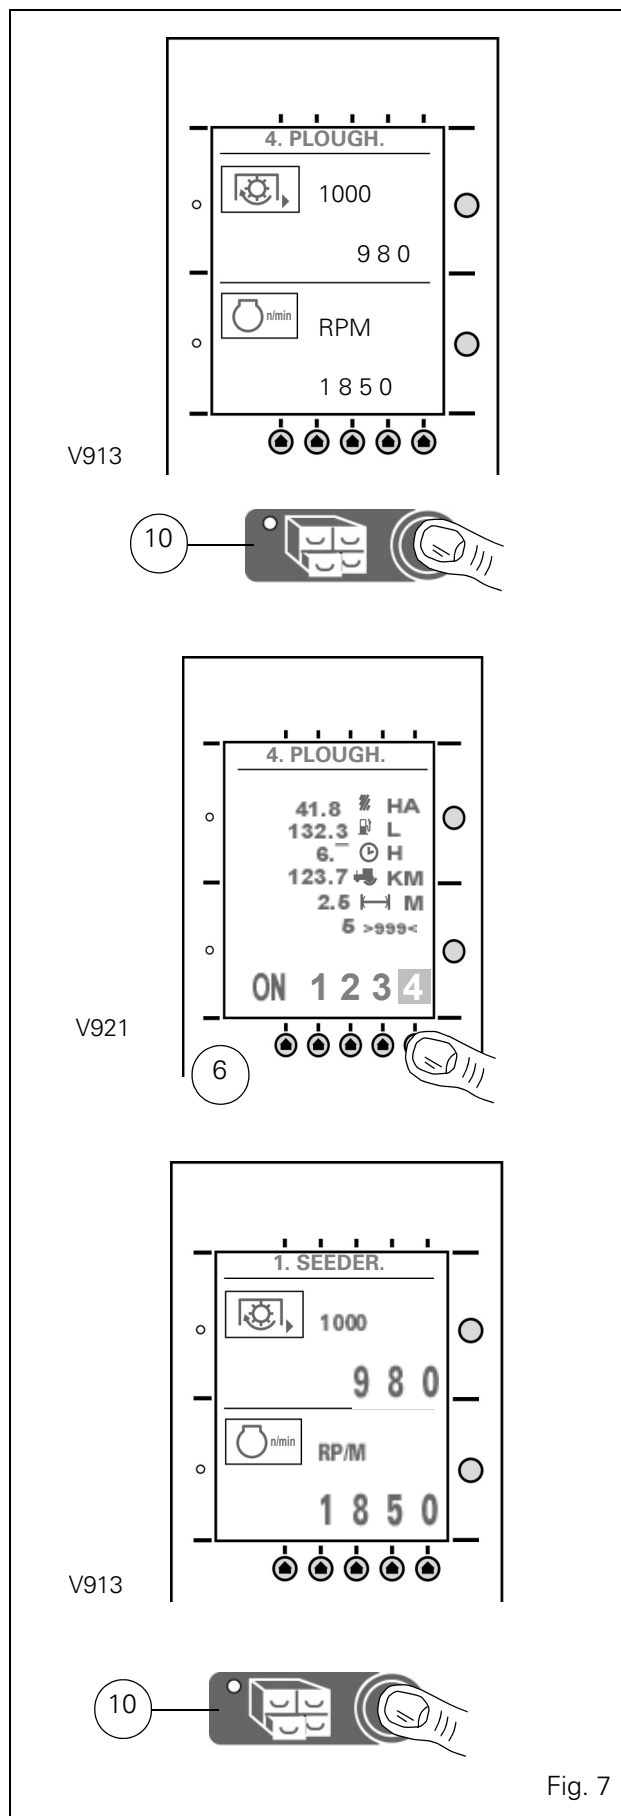

Fig. 7
- Press the memory key ref.10 (Fig. 7), then press one of the keys ref. 6 corresponding to the required memory; the selection is displayed in grey.
- Press key ref.10 again: the pre-recorded data (name, implement, etc.) is displayed at the top of the screen, The half-screens display the last selections stored when quitting, before selecting "MEMORY MODE".